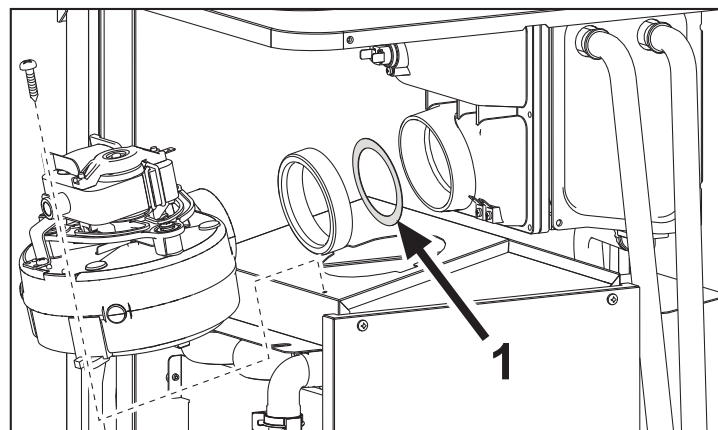

fig. 11
Before inserting the fume exhaust pipe, make sure the baffle (if used) is the correct type and properly positioned. To replace the baffle (ref. 1 - fig. 11), proceed as indicated in fig. 11.